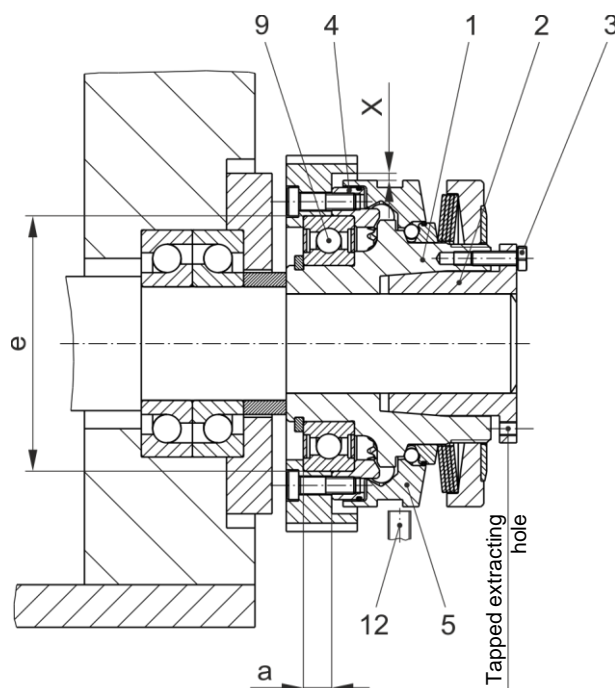

Fig. 8
In order to prevent the output element (pressure flange (4)) from moving axially in the direction of the thrust washer (5) during overload, please make sure that the bearing of the output element is designed as a locating bearing (Fig. 8).
Output elements which protrude over the thrust washer (5) (see Fig. 8) must be designed with sufficient radial air.